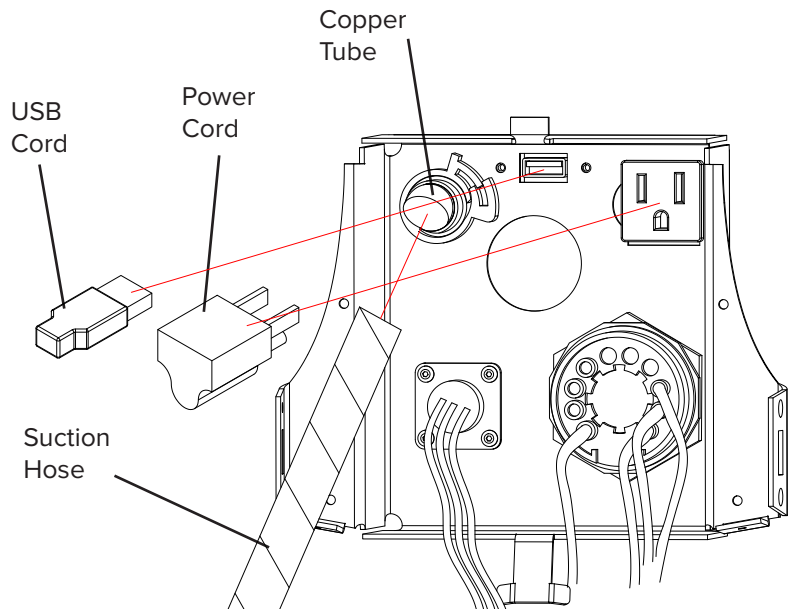

Fig 10.10
1. Refer to Fig 10.10 for connections